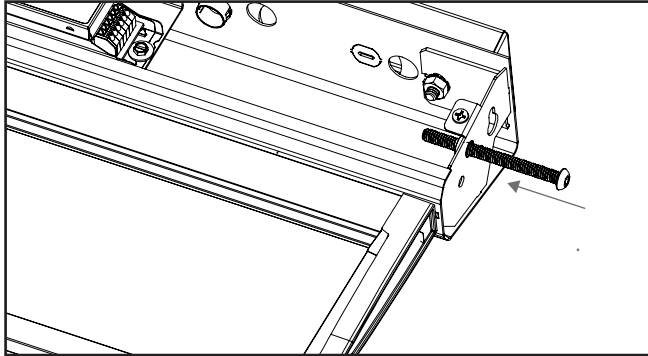

Figure 11.
Insert provided screw into the end of the fixtures to be joined leaving 2 inches of screw exposed (Figure 11.)
Install End Caps using one (1) #10-32 fastener. (Figure 11.)